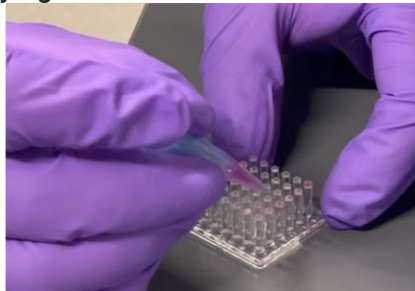

Figure 2. Loading the cell-alginate-Matrigel mixture on the pillar plate using a 1 mL pipette tip.
15. Gently tap the 1 mL pipette tip containing the cell-alginate-Matrigel mixture onto the center of the pillar to load single-cell suspension in alginate-Matrigel while blocking the large back opening of the tip with the index finger (Fig. 2).